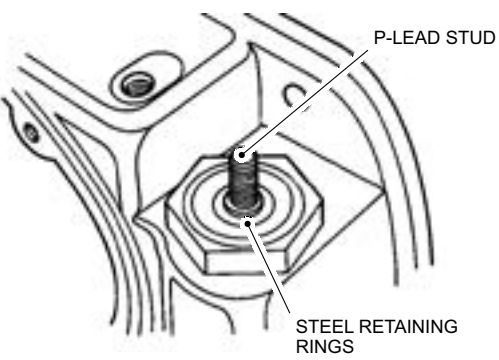

Figure 3.3.8A
3. Inspect the condenser P-lead stud for twisting or "pulled" condition. Use a magnifying lens to examine the glass bead end seals of the capacitor for broken glass or for glass separation from the retaining steel rings. Either of these conditions is cause for component rejection. (See Figure 3.3.8A).